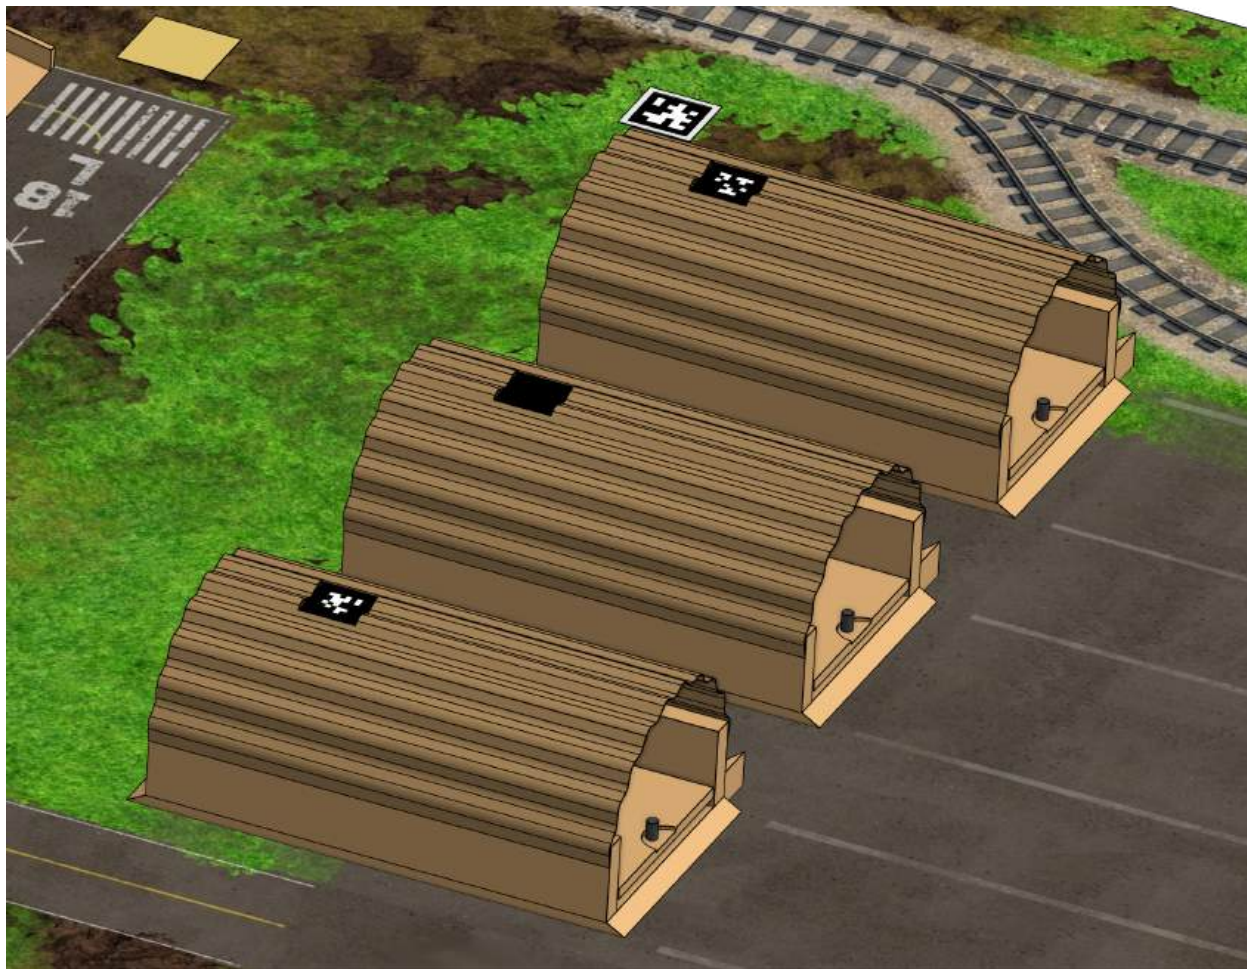

Figure 46: Hangars containing Pallets with Barrels and Hay Bales.
Hangar – A Field Element representing the former airfield structures that contain Pallets to be removed during Mission 1 – Hangar Hustle. There are three (3) Hangars, each with one (1) Pallet inside. For each Match, two (2) of the three Hangars are identified as active by April Tags. The inactive Hangar uses a solid black sticker in place of an April Tag. The active Hangars will be randomized between Matches by the referees. See Figure 46 on the following page.